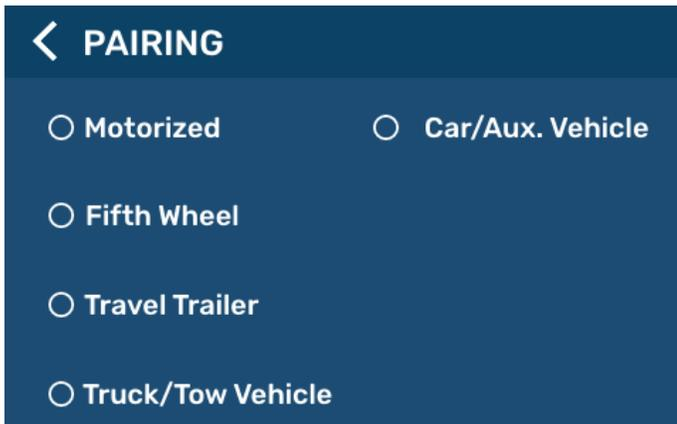
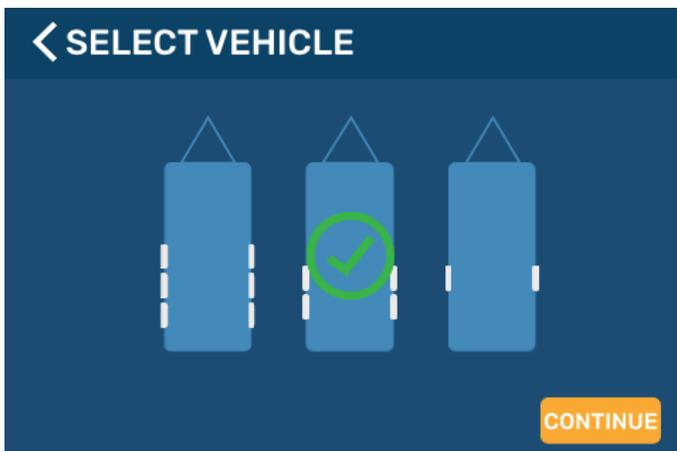

Fig.37
Fig.38
2. Select a class of vehicle (Fig.37) and the type of vehicle to be set up by choosing one of the pictures shown on the display (Fig.38).